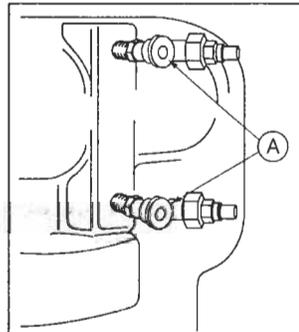
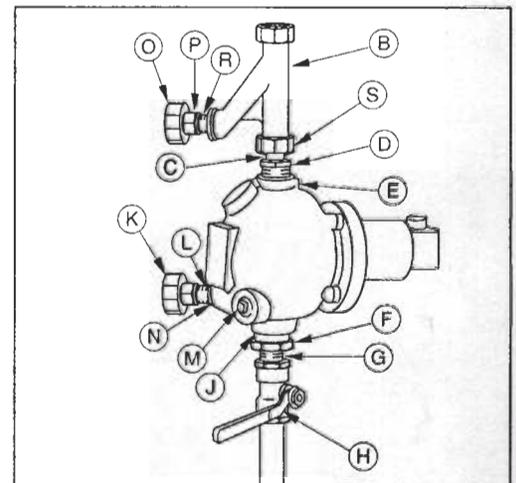

Figure 1
Figure 3
- a. See figures 1 and 2. Install both brass Y fittings (A) into the boiler gauge glass tapings.
- b. See figure 3. Install reducing bushing (D) and nipple (C) into top 1" (25mm) NPT tapping (E). Install reducing bushing (F), nipple (G), and blow down valve (H) into 1" (25mm) NPT (J).
- c. See figure 3. Slip union nut (K) over lower tail piece (L) and screw it into either 1/2" (15mm) tapping (M) or (N). Use the 1/2" (15mm) pipe plug to close unused tapping. Slip union nut (O) over union piece (P) and nipple (R) and install into black Y (B). Slide black Y (B) over nipple (C). Connect upper (O) and lower (K) unions to brass Y fitting (A, figure 1) and tighten. **NOTE:** the black Y (B) will have to be moved up or down to mate the union halves. Tighten compression nut (S).